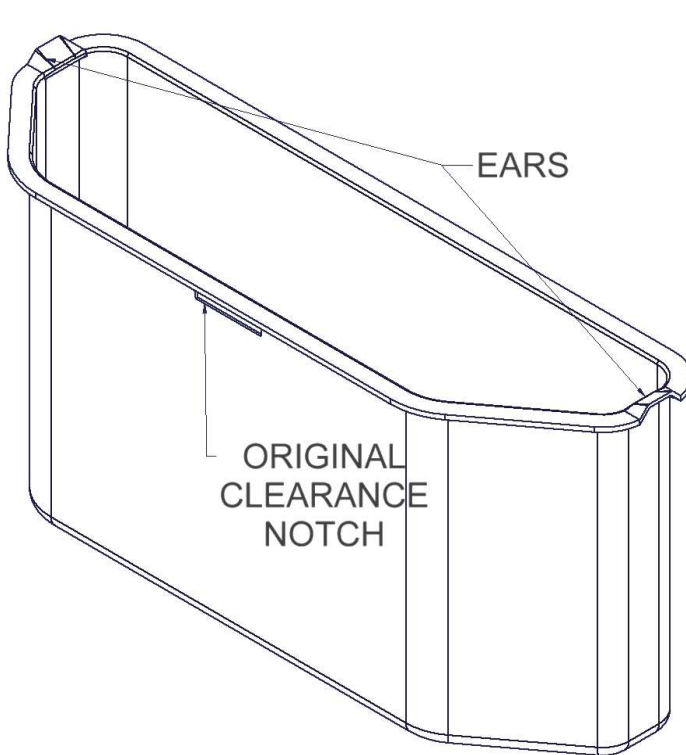

FIGURE 2
2. The “ears” on either side of the liner must be removed down to a level where they will not interfere with the #357 Security Lid as it is closed and locked. (SEE FIGURES 2 AND 3)